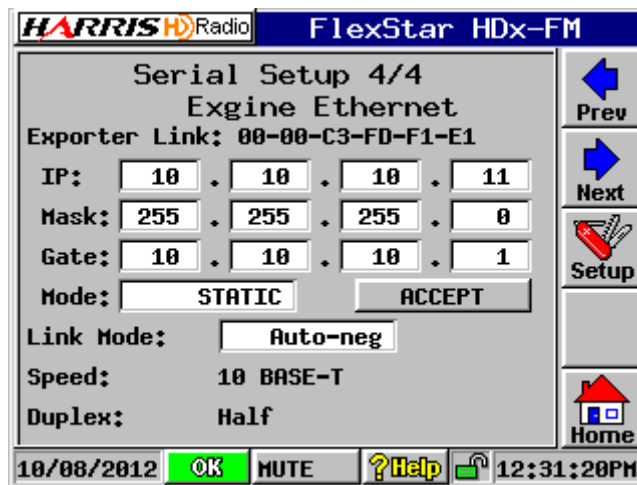

Figure 1-9 Flexstar Ethernet IP Setup Screen
- STEP 10** It may be necessary to enter the MAC address in your exporter. This can be found as shown in Figure 1-9. Enter the MAC address shown on your Flexstar screen into the Exporter.